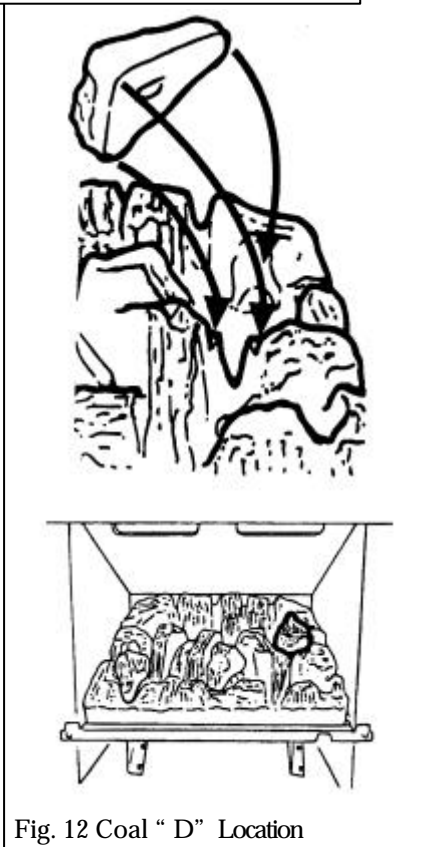

Fig. 12 Coal "D" Location
10.1.4 Position the rear right coal (embossed "D" on its underside) in the well in the coal bed marked "D" - see figure 12. The pointed rear of the coal should rest on the ledge in the "V" cut-out at the rear of the well in the coal bed marked "D". The other two corners of the coal should rest on the ledges at the front and right side of the well in the coal bed.